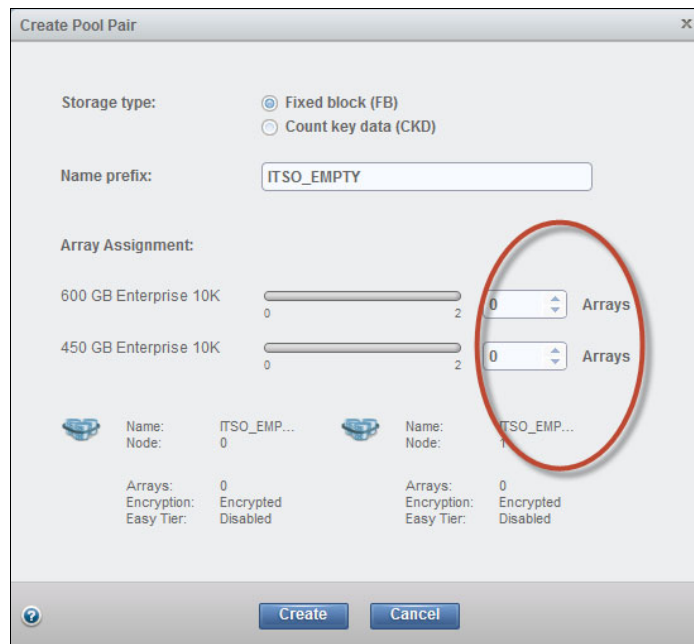

Figure 11-46 Create an empty pool pair with no assigned arrays
1. Create a pool pair, as shown in Figure 11-46. However, do not assign any arrays to new pool pair.